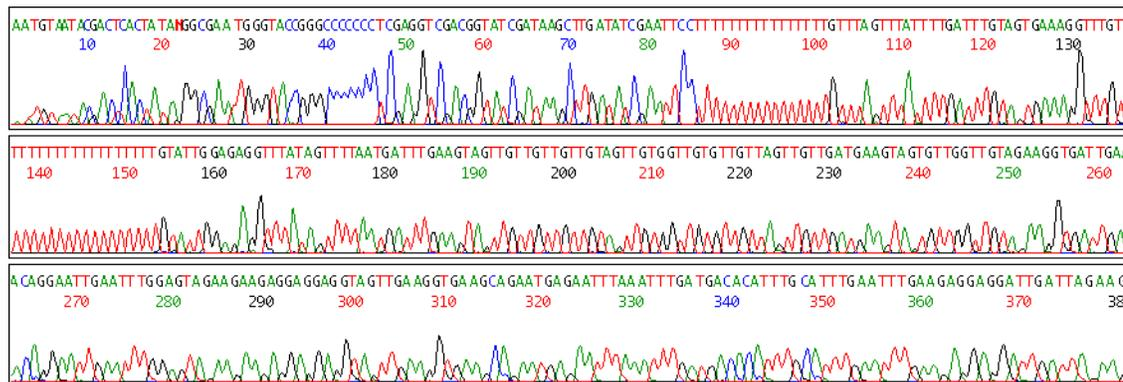

Figure 7-44 Same template as in Figure 7-43, but sequenced with dRhodamine terminators
When the same template was sequenced with dRhodamine terminators, good data was obtained beyond the GT-rich region (Figure 7-44).
- ◆ Using dRhodamine terminator chemistry (Figure 7-44 on page 7-34)